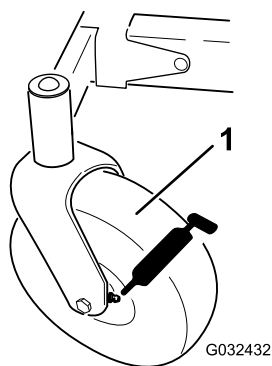

Figure 36
3. Clean the grease fittings (Figure 36) with a rag.
4. Connect a grease gun to each fitting (Figure 36).